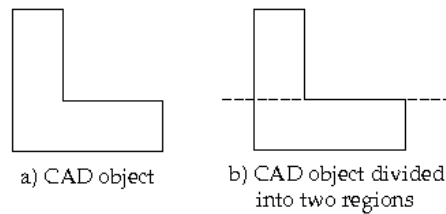

Figure 4.2.7: Converting an L-Shaped CAD Object
When converting CAD geometry into **Airpak** objects, you can define a region in your model and then divide the region into segments. **Airpak** can then convert all the CAD geometry within each segment into an **Airpak** object. For example, you could select a CAD object that is L-shaped, as shown in Figure 4.2.7a. You could then divide the L-shaped geometry into two regions, as shown in Figure 4.2.8b. **Airpak** can split the CAD objects into two parts along the dividing line and then convert the CAD geometry in each region into an **Airpak** object (i.e., **Airpak** will create two rectangular **Airpak** objects for the example shown in Figure 4.2.7.)
- (b) Under **Shapes to try**, select the shapes that you want **Airpak** to try to fit to the CAD geometry. For example, if you are converting the surfaces shown in Figure 4.2.7 into rectangular partitions, select **quad** (rectangle) in the **CAD data operation options** panel and deselect all other shapes under **Shapes to try**.